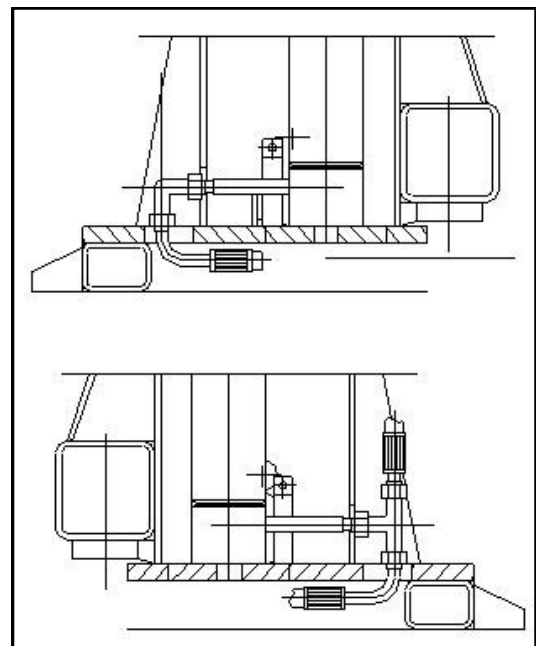

Fig. 30
- ◆ Connect the high-pressure hose according to **Fig. 30**. First connect the hose with tri-joint under the main column and the bend under the sub-column. Fix them after upright the columns.